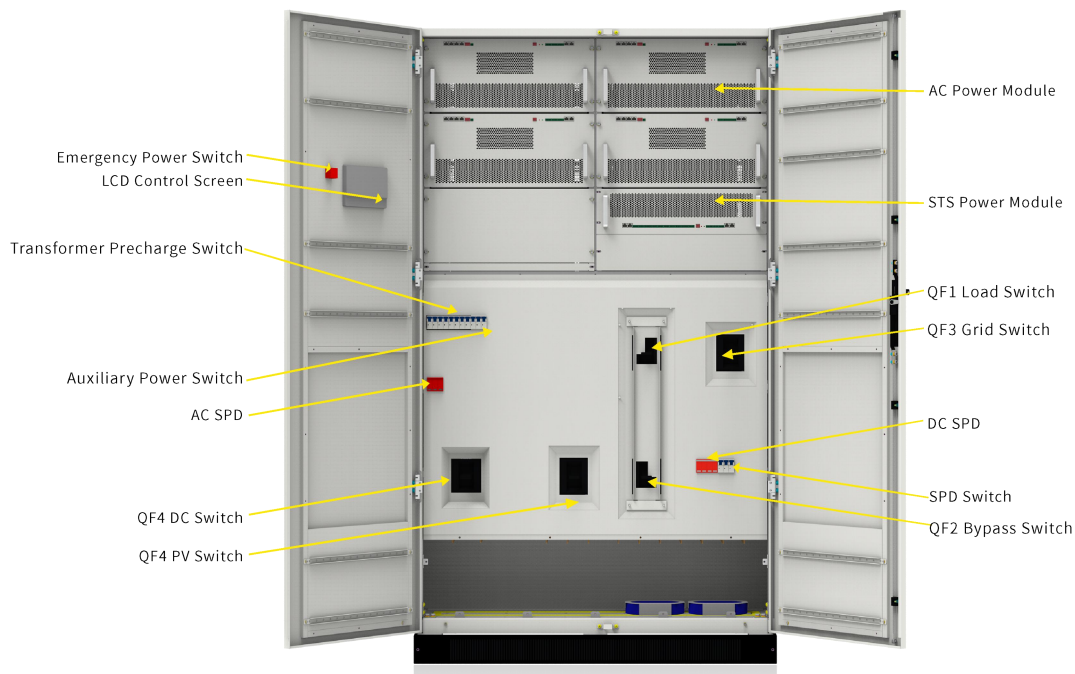

Figure 4-1 Distribution switch location diagram
(2) Grounding Inspection: The cabinet has a grounding point, and the grounding is secure; the grounding conductor inside the cabinet is reliably connected to the cabinet's grounding copper bar.
(3) Cable Inspection:
- (4) Copper row inspection: no obvious cracks or deformation of copper rows, fastening of screws at the lap joints, no misalignment of scribed markings, and no debris on the copper rows.
- (5) Component inspection: Referring to Figure 4.1, the circuit breakers are all in the open position.
- (1) Confirm with a multimeter that the grid voltage is within the predetermined range of 400V (-15~+10%) .
- (2) Referring to Fig. 4.1, close the transformer soft-start switch MCB1 and the auxiliary power switch MCB2~3, close the QF3 utility switch and complete the transformer soft-start.
- (3) Close the QF1 load switch and close the DC switch; (Note: When using the QF2 bypass switch for equipment maintenance, remember to disconnect the QF1 load switch first).
- (4) Wait for the touch screen to start (about 30 seconds), confirm that the display is normal, no fault alarm.
- (5) Set converter parameters in "System" -> "Parameter Setting" interface, and select the required operation mode in "System" -> "Operation Mode" interface. Select the required operation mode in "System" -> "Operation Mode" interface.
- (6) Enable all modules in the "Switch" page of the touch screen, click "converter on" to complete the power-on.
- (1) Click on the 'Switch' interface of the touch screen and click on 'System Shutdown', and wait for the converter to stop running.
- (2) Refer to Fig. 4.1, switch off the converter auxiliary switch MCB2~3.
- (3) Interrupts QF3 utility switch, QF1 load switch, GF4 DC switch.
- (4) Wait for the end of bus discharge, the touch screen goes out, and the equipment completes shutdown.
- (1) Press the emergency shutdown button "EPO".
- (2) Referring to Figure 4.1, breakout converter auxiliary switch MCB2~3.
- (3) Interrupts QF3 utility switch, QF1 load switch, QF4 DC switch.
- (4) Reset the EPO button after determining that the fault or hazard is cleared and operation is required.
- 1、 Converter on: First of all, check the power-up situation of the whole machine, refer to Fig. 4.1 to close the QF3 AC molded case switch and auxiliary power switch MCB2~3.